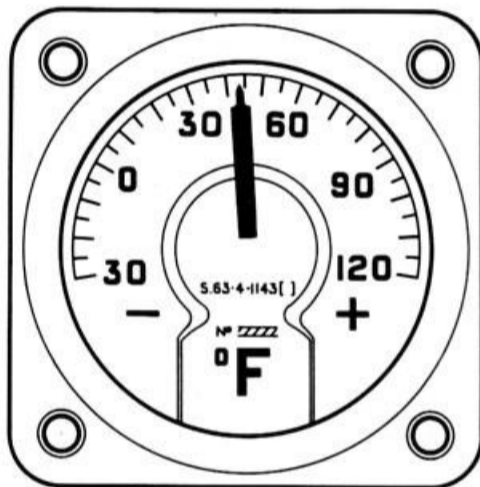

Fig. 1. Indicator, Type S63.4.1143
1. This temperature indicator (Ref. No. 6A/N.I.V.) (fig. 1) is calibrated in degrees F from -30 to $+120$; the indicator is controlled by the variation of resistance with temperature of a resistance thermometer element, which obeys a platinum law.